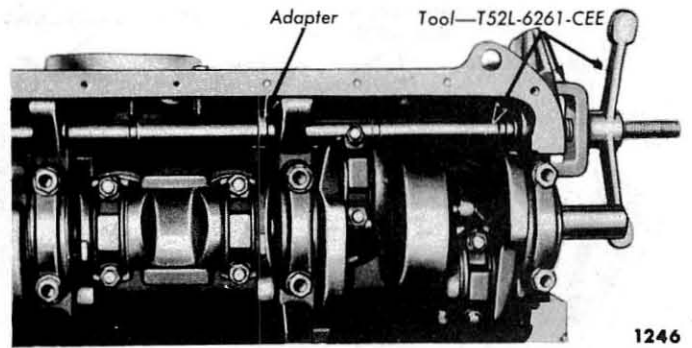

Fig. 35—Removing or Installing Camshaft Bearings
(1) **REMOVAL.** Remove the camshaft. Drill a 1/2" hole in the plug at the rear camshaft bearing bore. Use the tool shown in fig. 34 to remove the plug. Remove the camshaft bearings with the tool shown in fig. 35.
(2) **INSTALLATION.** Position the bearing at the bearing bore and press it in place as shown in fig. 35. Be sure the oil hole in the bearing lines up with the oil hole in the bore.